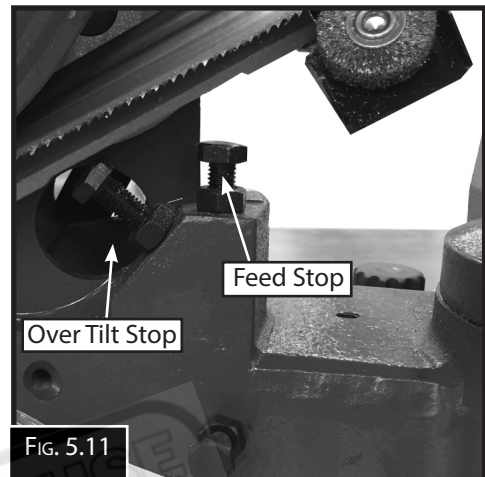

FIG. 5.11
2. Release the lock nut on the Feed Stop bolt.(Fig.5.11)